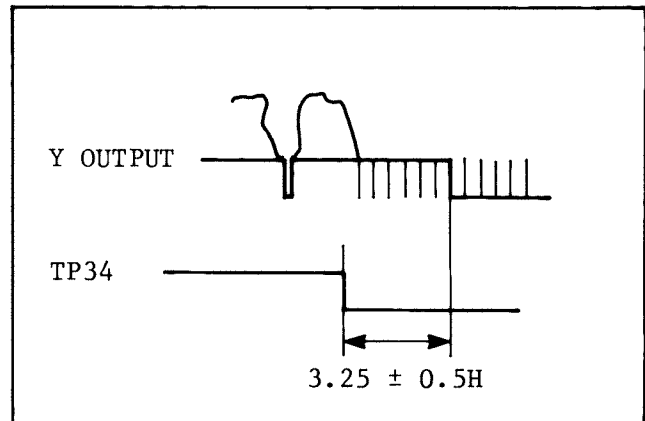

Fig. 2 PG SHIFTER A
6. Adjust VR12 (PG SHIFTER A) so that the falling edge of the switching pulse is $3.25H \pm 0.5H$ before the start of the vertical sync, as shown in Fig. 2.